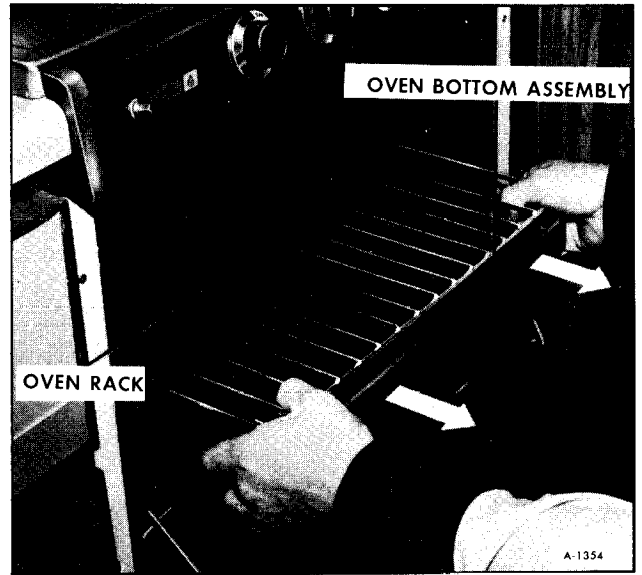

Figure 14-Removing Oven Bottom Assembly
3. Remove oven bottom assembly by pulling outward (See figure 14).